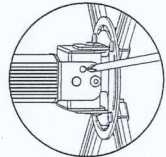

figure 11
2. Loosen the positioning screws (left and right) for adjusting the angle, and then rotate the screwdriver for fine turning to the required angle as figure 11.